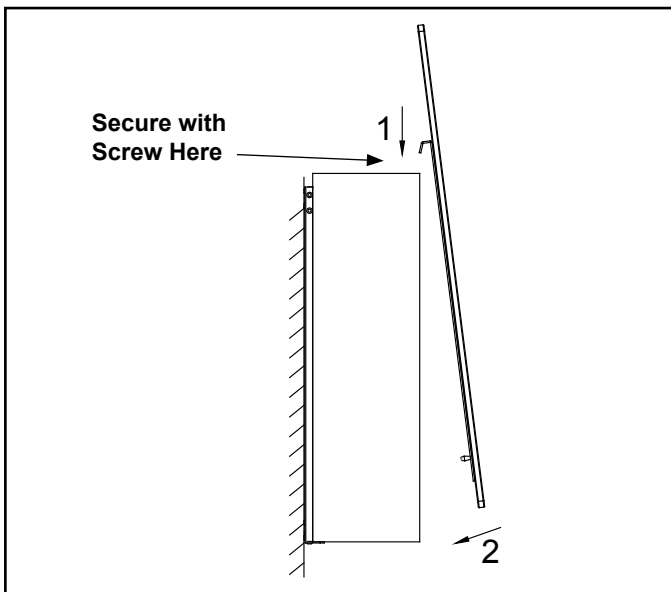

Figure 4.14 Attaching Front to Appliance
- Install glass front as shown in Figure 4.14. Orientate front so that LED lighting connector is towards the floor.
- Secure the glass front to the appliance with two provided M4x8 screws through the two glass front mounting brackets. See Figure 4.14.